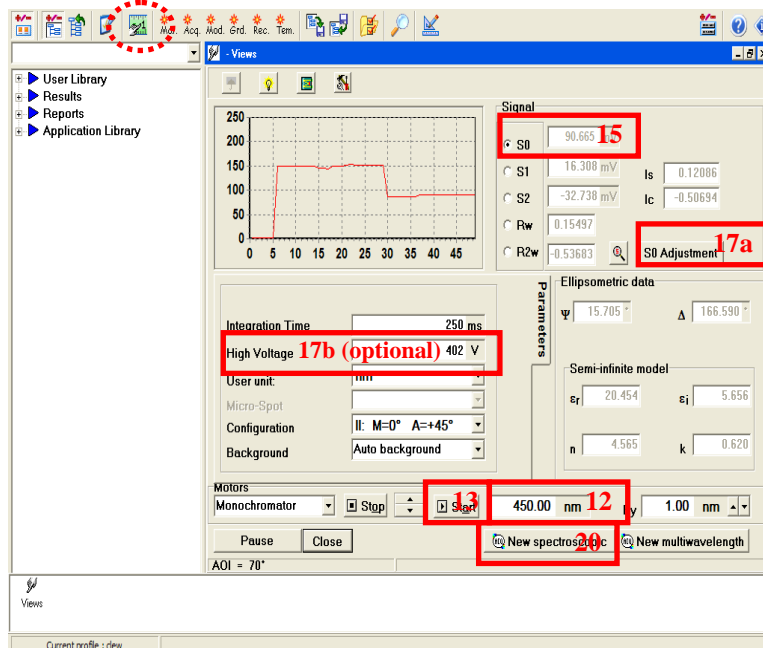

Figure 4. Views screen.
18. As for the rest of the parameters, **Figure 4** shows the most common settings.